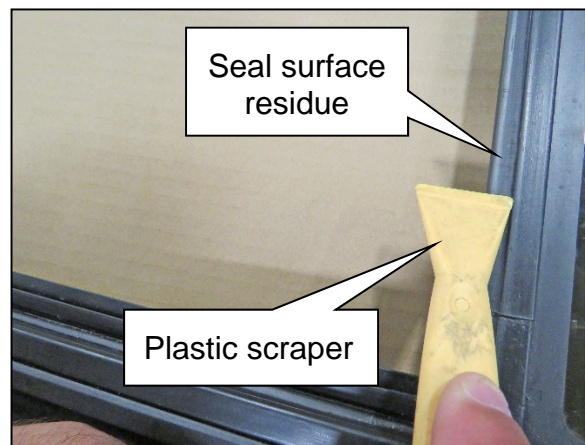

Figure 9
5. Use a plastic scraper to remove any heavy residue or remaining particles from the seal surface (Figure 9).